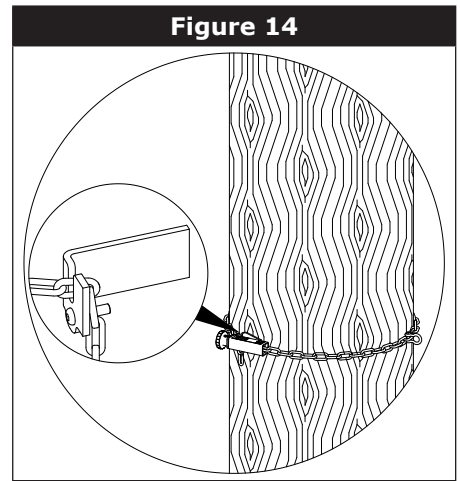

Figure 14
- Step 1.** Hold the Chain Tensioner against the Wood Pole and wrap the free end of the chain around the Wood Pole. Feed the excess chain through the slot in the Chain Retainer and hook a link on the Button Head Screw Pin protruding from the Retainer. Turn the Hand Wheel to tighten the chain. (Figure 14).